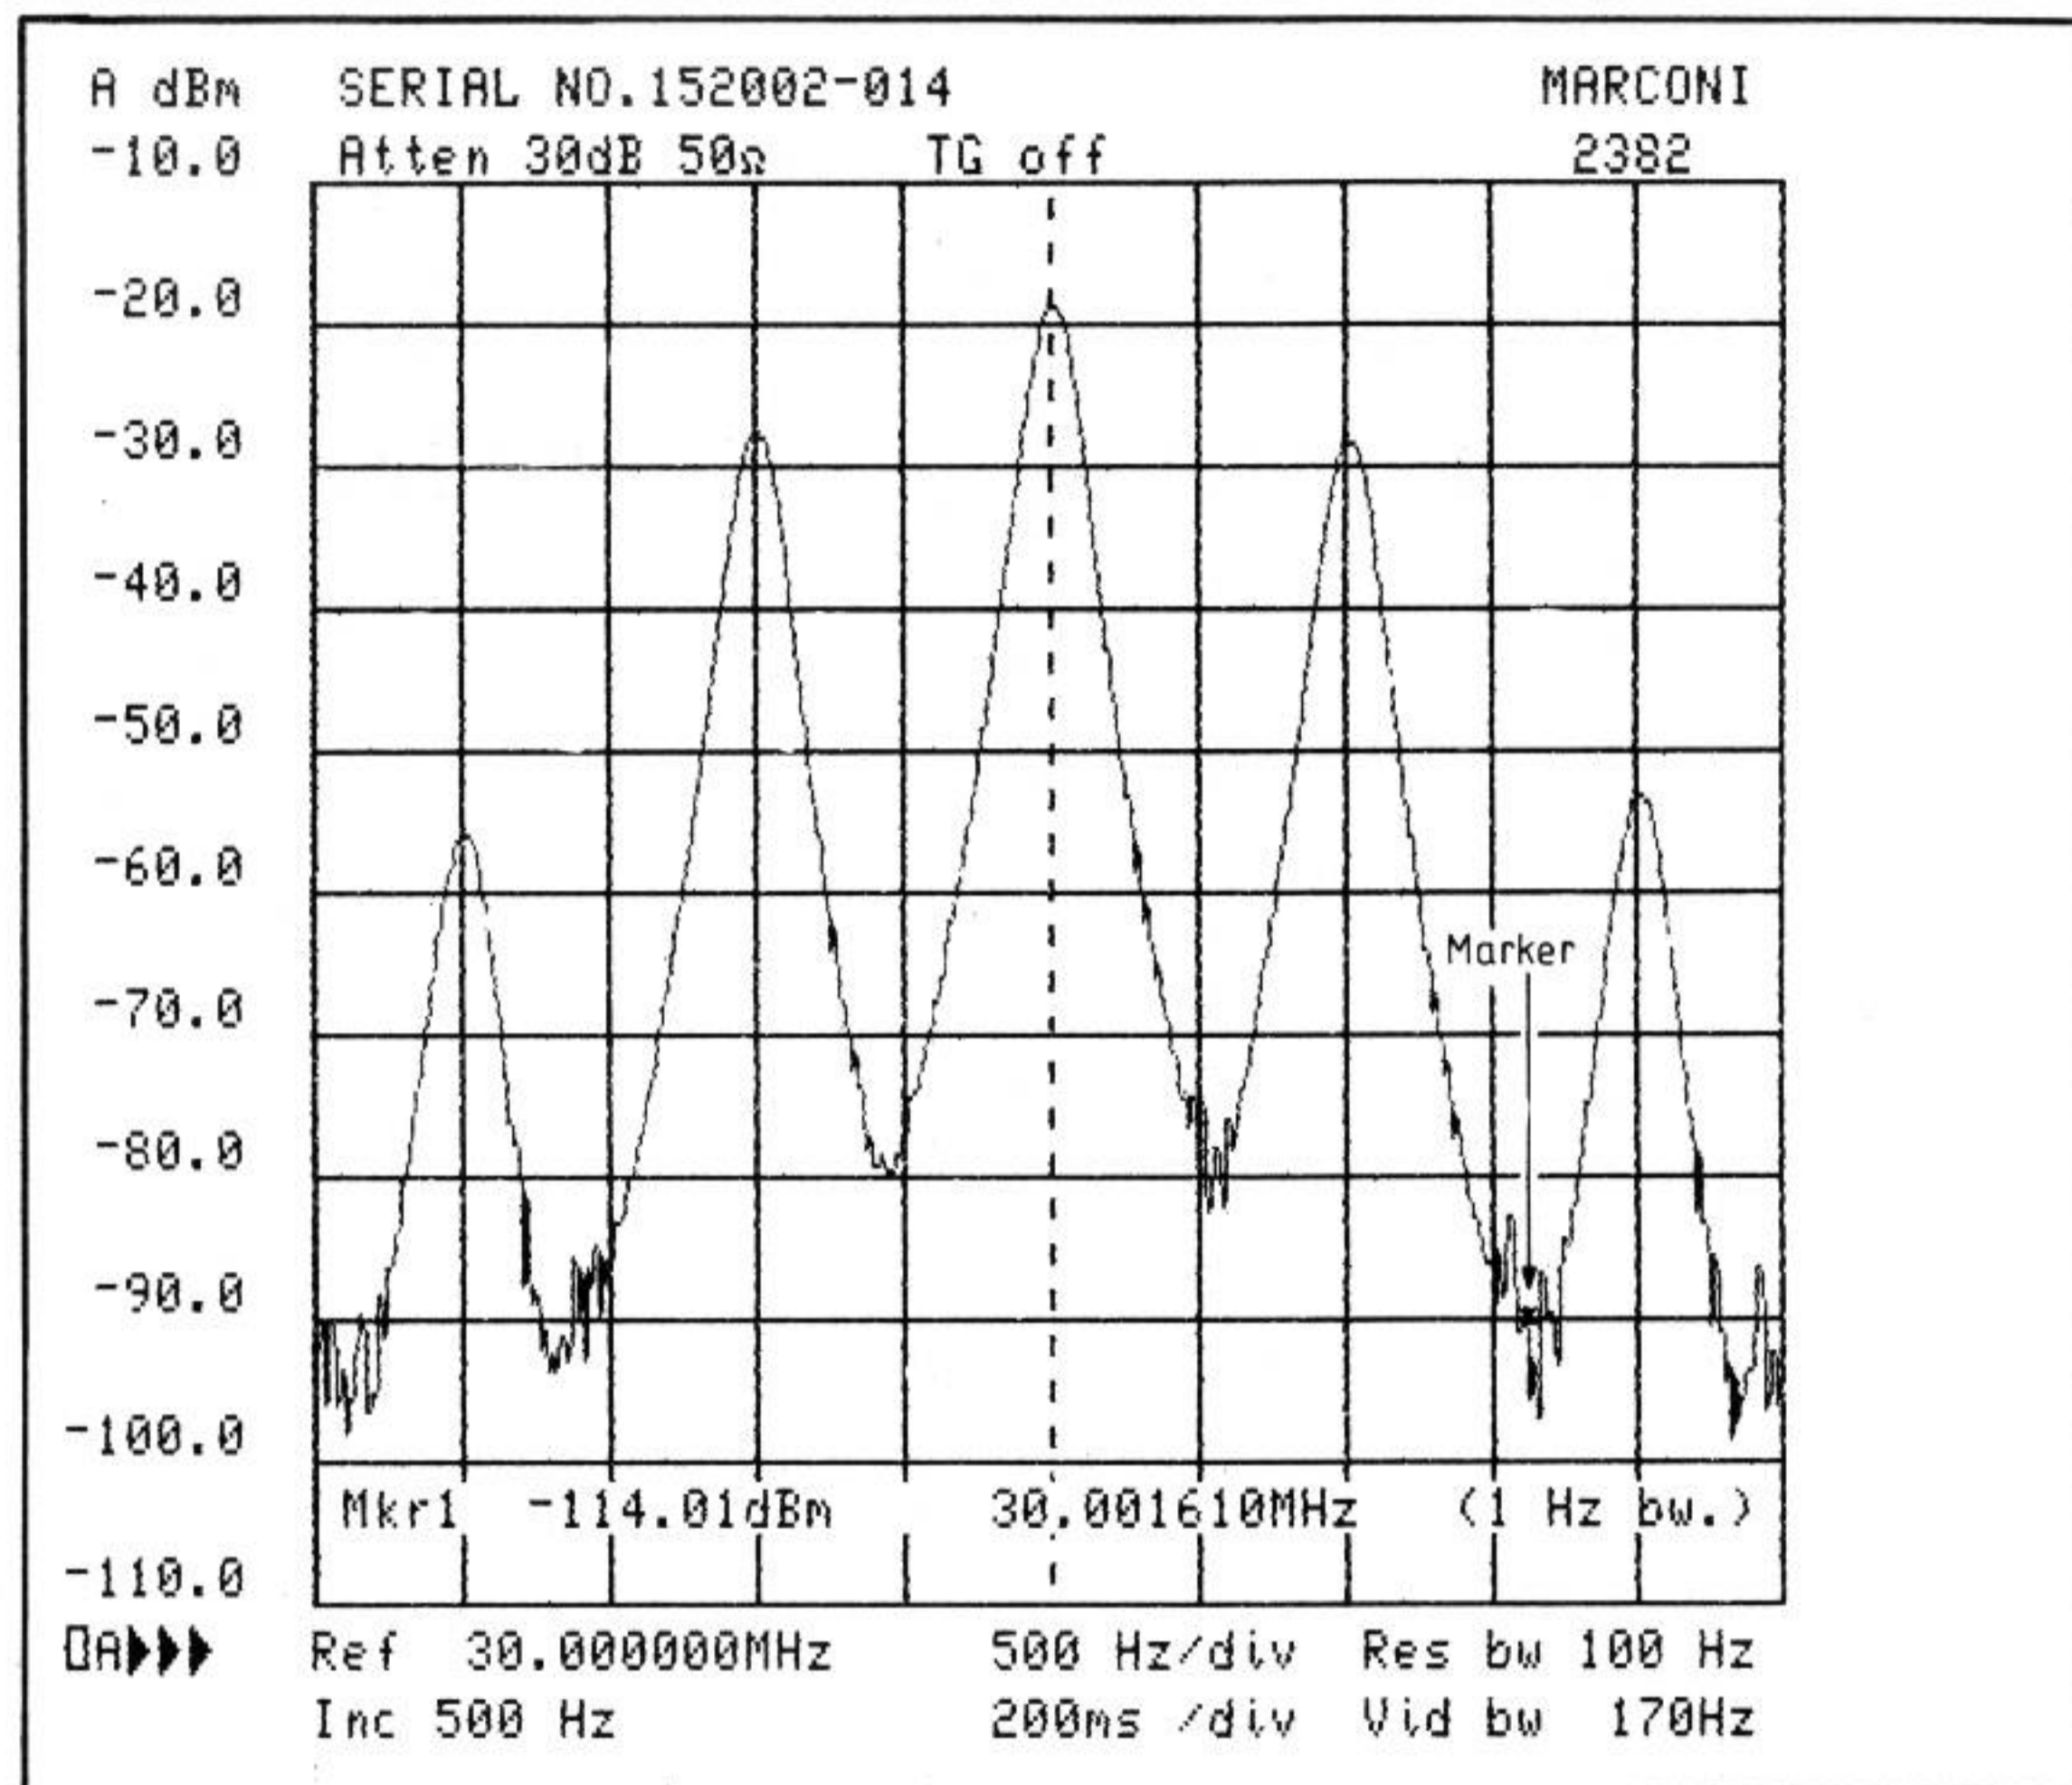

Fig. 15 Noise level measurement
71. With the 30 MHz carrier and sidebands suitably displayed, set the markers A B SELECT key to 'A', press MKR 1 and set 1,2 MOVE to 1 [34]. Using the MOVE rotary control position marker 1 in the noise, well clear of a signal. Press 2ND FUNC then FULL SPAN (NOISE 1 Hz) and the level of the noise normalized to a 1 Hz bandwidth is shown as a marginal annotation on the fourth line from the bottom of the screen (refer Fig. 15).